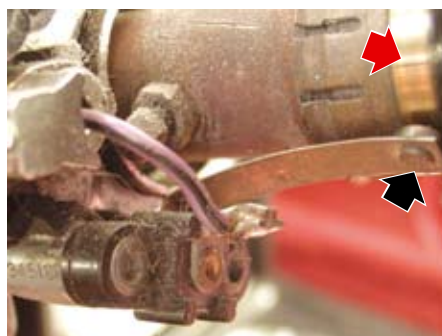
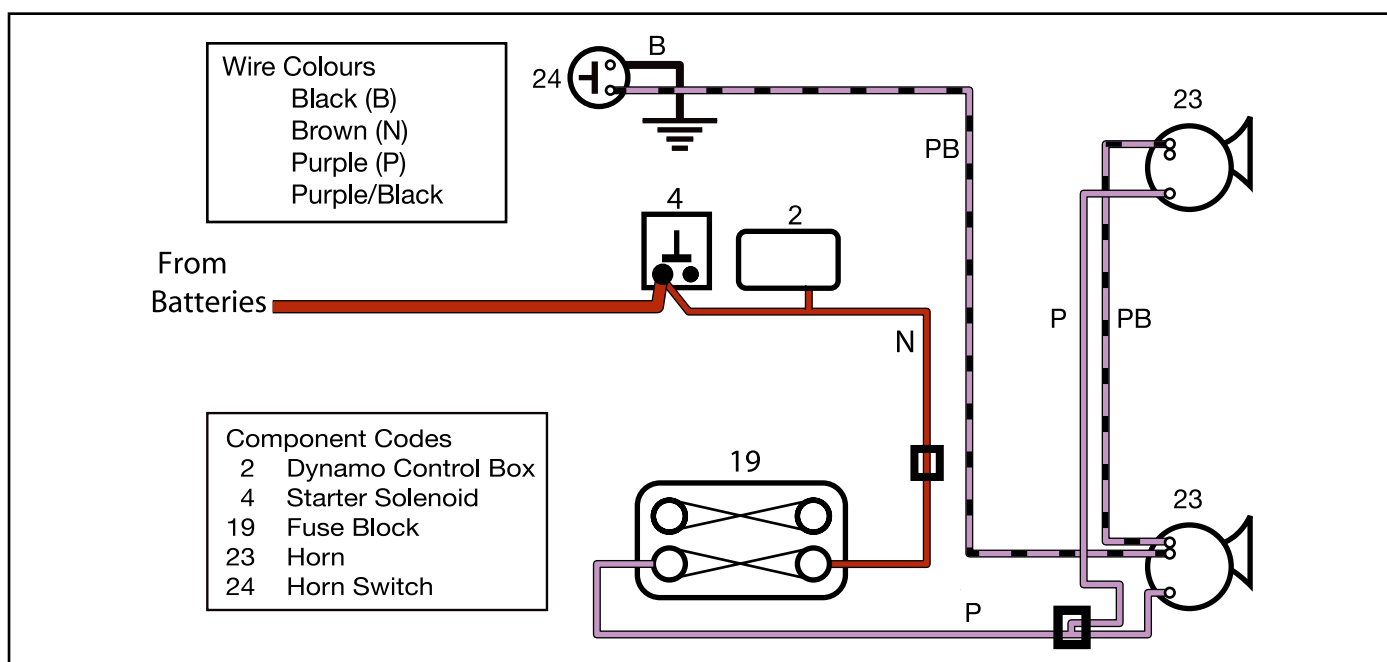

Figure 17.4. The pre-1968 horn brush contact (black arrow) and slip ring (red arrow).
Figure 17.3. The pre-1975 horn circuit.
Figure 17.3 shows the horn circuit for pre-1975 cars. Strictly speaking the drawing shows pre-1970 wiring. From 1971 to 1975 the fuse block (19) will be a 4-fuse type, like that in Figure 17.4. In cars built after 1978 there is no separate control box (2) to which the brown power wires are anchored.
From 1962 until 1967, the horn push switch was located in the centre of the steering wheel. This required a method of making an electrical connection to the rotating hub. To achieve this a brush contact, part of the turn signal switch, makes electrical contact to a slip ring that is connected to the horn switch, see Figure 17.4. The earth connection from the switch relies on continuity between the steering inner steering shaft and the metal